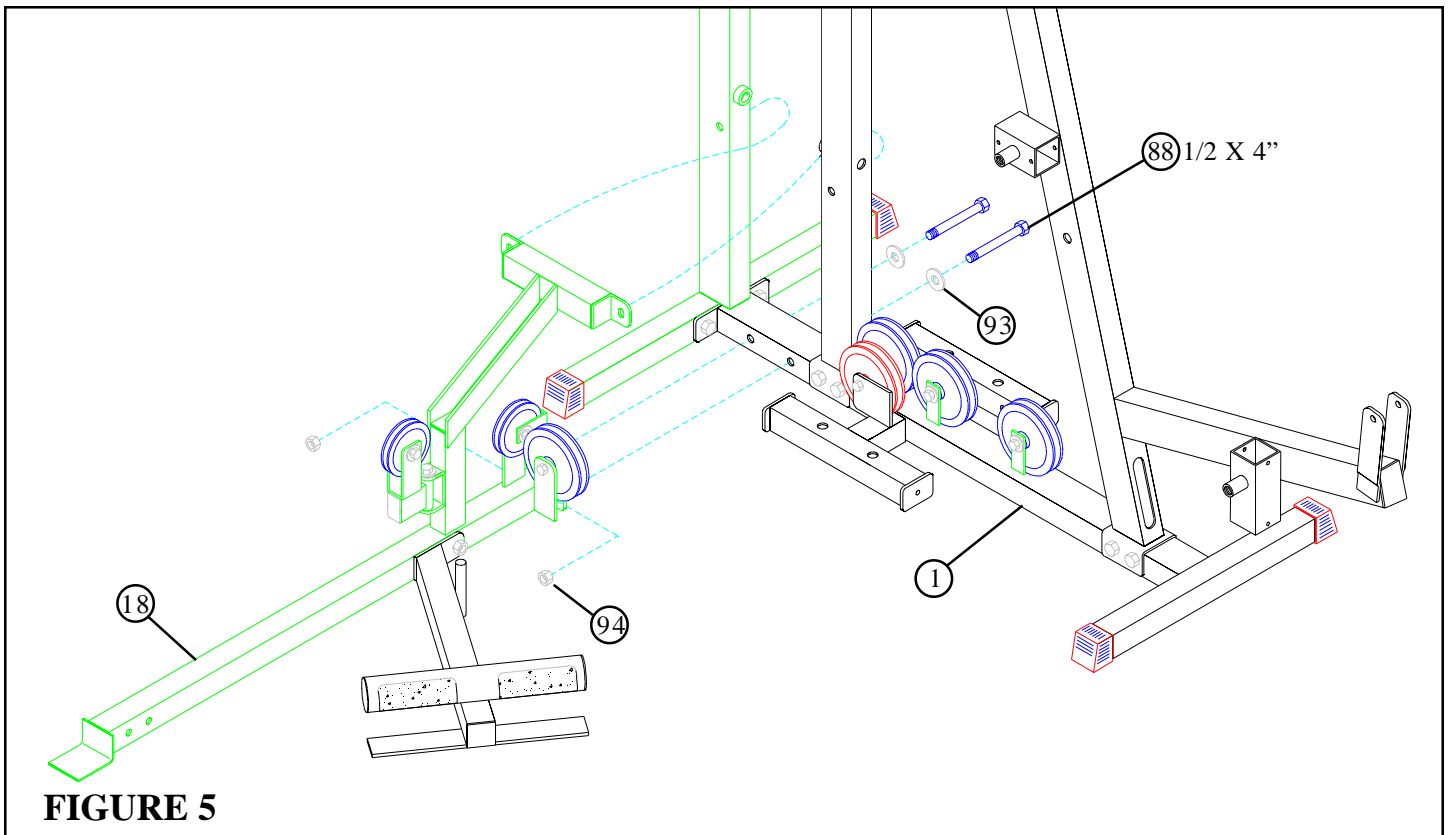

FIGURE 5
- **LOOSELY** assemble the PRESS BASE (18) to the BASE (1) using two 1/2 X 4" BOLTS (88), two 1/2" WASHERS (93), and two 1/2" LOCK NUTS (94). See FIGURE 5.